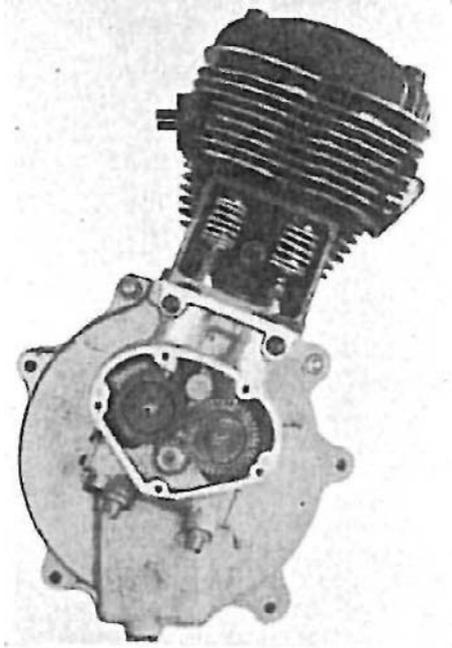

FIG. 30. THE 5.86 H.P. S.V. ENGINE
**The 5·86 h.p. S.V. Engine.** This inclined power unit, although embodying a large number of standard Matchless features, is an entirely new design. The bore and stroke are 85·5 mm. x 101·6 mm., giving a cubic capacity of 586 c.c. The compression ratio is 4·8 to 1. As may be seen in Fig. 30, the crankcase differs from previous side-valve models chiefly in respect of the housing for the timing gear. The crankshaft itself, which comprises two heavy rimmed flywheels, a shouldered crank pin, and two sturdy mainshafts, has a roller bearing on the transmission side and a plain bush bearing on the timing side. A needle roller bearing is also used for the "H" section connecting rod big-end. The small-end receives a ⅞ in. gudgeon pin, which is fully floating and is prevented from moving in the piston boss excessively by spring circlips. The piston itself (see Fig. 30A) is of aluminium alloy, with two rings and the usual diagonal split in the skirt. A high degree of finish is noticeable throughout the engine. The usual Matchless design of cylinder with the valve chest cast integral is used. The head itself is detachable. The large diameter valves and the adjustable mushroom tappets both have detachable press-fit, cast-iron guides and work under ideal conditions, the detachable valve chest cover plate precluding all dirt and noise and enabling the parts to be well lubricated. The exploded gases after ignition by a plug placed over the middle of the combustion
The valve gear (see Fig. 30) departs from usual single-cylinder Matchless practice in that, instead of employing a single camshaft having two cams, two separate camshafts are used, and both cam wheels which run submerged in oil are driven off the engine